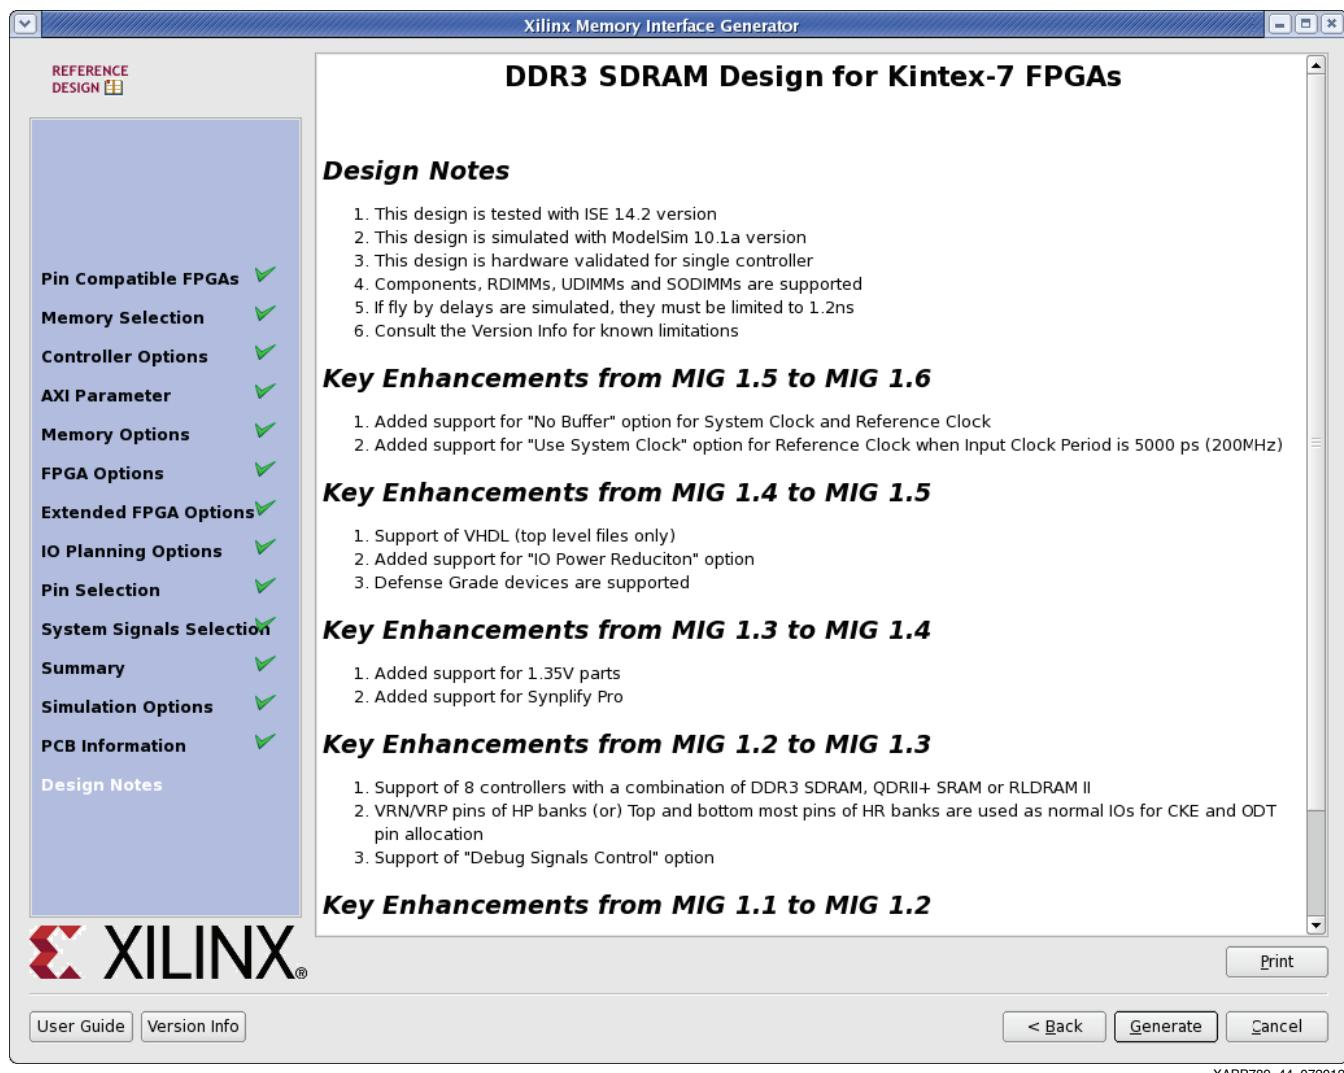

Figure 44: MIG Design Notes
32. Review the Design Notes and click **Generate** (Figure 44). The MIG IP files are generated as the IP customization GUI is running to create the underlying HDL and constraint files. After several seconds for the generation process to complete, control is returned to the Vivado tools. This creates a memory controller for the DDR3 memory on the KC705 board that has an AXI Interface to later connect to the AXI Interconnect IP.